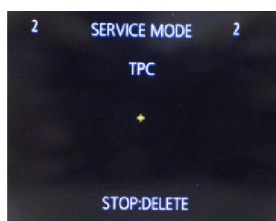

Fig.3-8
4. The (+) mark appears in the center (Fig.3-8). Then touch the (+) mark.